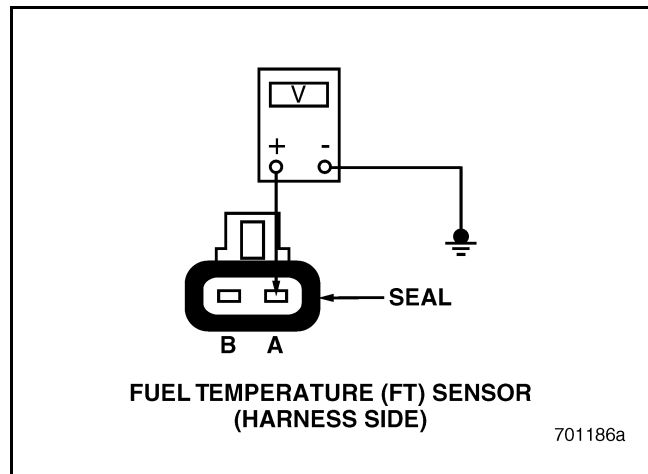

Figure 65
5. Measure the voltage between pin A of the FT Sensor harness connector and a good ground (see Figure 65).